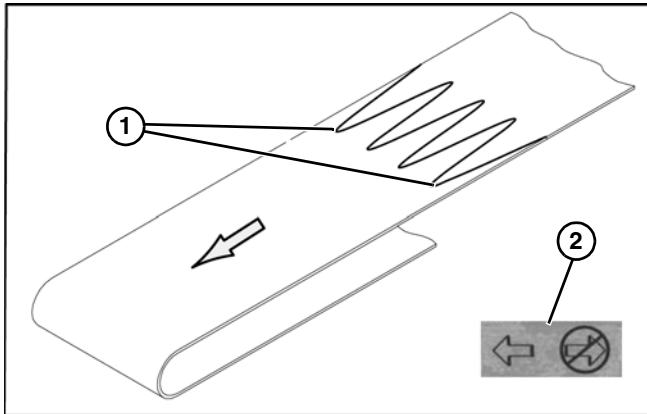

Figure 30
1. Orient belt so splice leading fingers (**Figure 30, item 1**) point in the direction of belt travel as identified by the conveyor directional label (**Figure 30, item 2**).
2. Orient belt so splice leading fingers (**Figure 30, item 1**) point in the direction of belt travel as identified by the conveyor directional label (**Figure 30, item 2**).